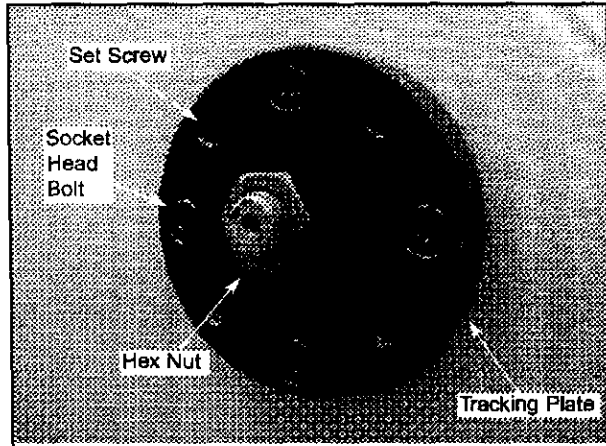

Figure 5 - Tracking Plate
- Proper tracking is achieved when drive and idler wheels are aligned. Tracking plate (see Figure 5) on the back of the tool frame is used to tilt upper idler wheel and align all three blade wheels.